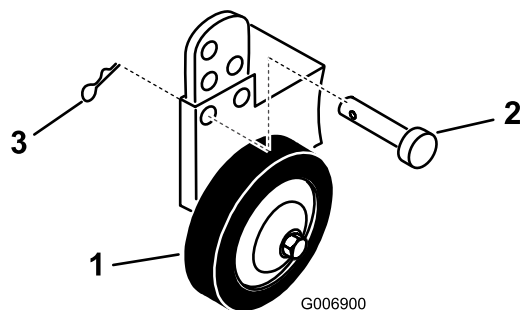

Figure 8
- A. Remove the hairpin cotter and pin to change the hole location (Figure 8).
- B. Select a hole position so that the gage wheel is 3/8 inch (10 mm) off of the ground for the height-of-cut to be used (Figure 8).